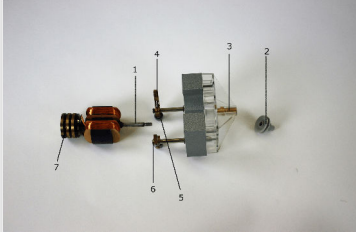

Fig. 2
- Assemble the motor attachment according to Fig. 2.